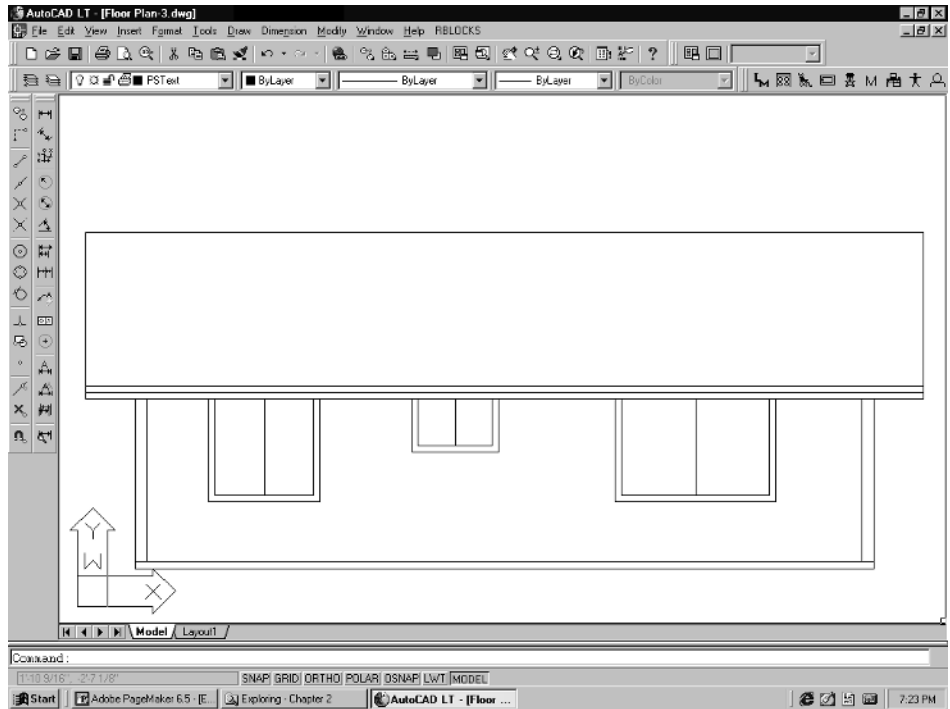

Figure 4-18
5. Follow the same procedure for the other windows. You can then **Zoom | In** to the elevation and take care of any editing. Offset the window exteriors by **3"** to form the window frames, and erase the construction lines you drew, the new header line, and any other extra lines that you may have added. If you wish, you can add corner boards and fascia trims. Your drawing should resemble Figure 4-18.